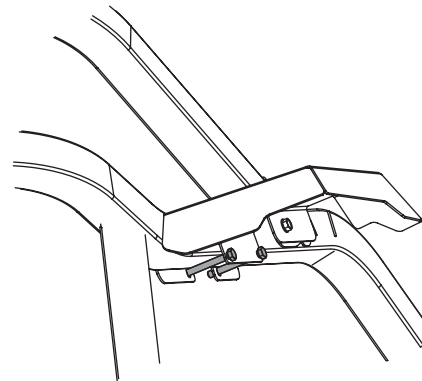

Figure 4
4. Thread two of the hex screws supplied with this kit through the holes at the bottom rear of the bracket, beneath the upper tractor frame. See Figure 4.